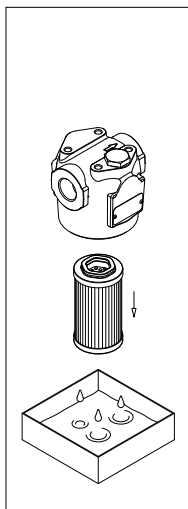

fig. 3
- (Fig. 3) Pull the filter element out. Clean the cavity in the housing, the tap and the bowl. Check them for damage